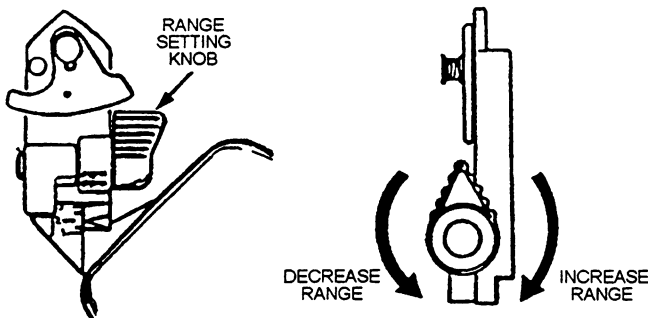

Figure 14-33.—Adjust range setting.
- Adjust the rear sight (fig. 14-33). When uncovered, the rear sight is preset on 200 meters, which is the battle-sight setting. During target engagement for targets more than 200 meters, a sight adjustment is necessary; for targets less than 200 meters, no adjustment is necessary. The sight is adjustable below 200 meters; however, because of the flight dynamics of the projectile, adjusting the range setting does not increase the hit probability for targets less than 200 meters.